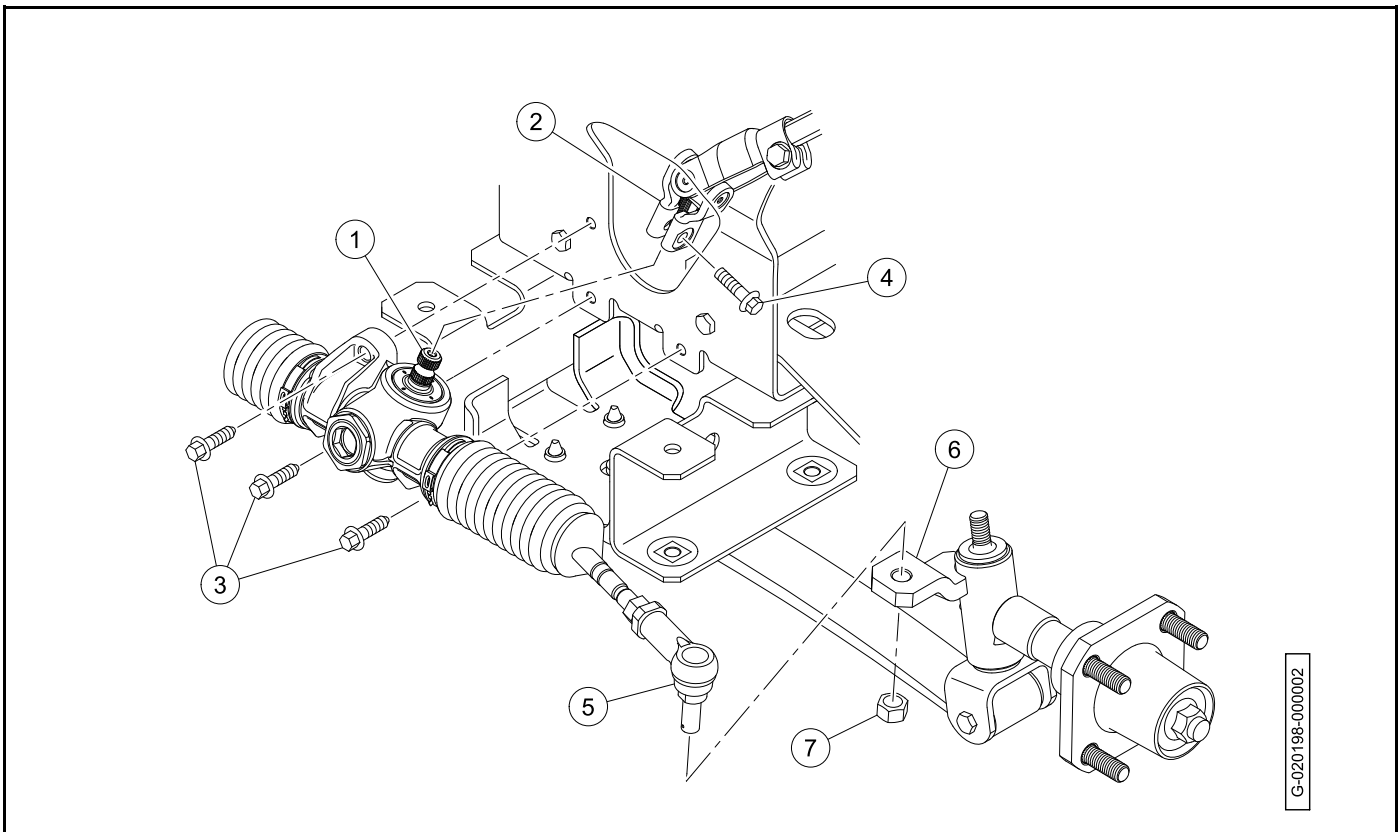

Figure 7-6 Rack and Pinion Installation
1. Apply a light coat of anti-seize lubricating compound to the pinion shaft (1) (**Figure 7-6**).
1. Apply a light coat of anti-seize lubricating compound to the pinion shaft (7) (Figure 7-6).
2. Install the universal joint (6) onto the pinion shaft.
3. Install the screws (4). Tighten the screws to 22 lb·ft (30 N·m).
4. Install the bolt (5). Tighten the bolt to 18.4 lb·ft (25 N·m).
5. Install the tie rod ends (2) into the spindle tabs (3)
6. Install the retaining nuts (1).